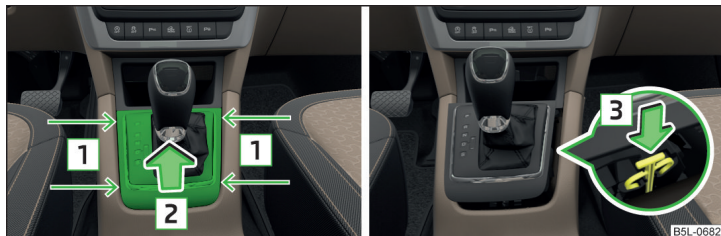

Fig. 198 Selector lever-emergency unlocking
- › Insert a flat-head screwdriver into the gap in the arrow range **1** » Fig. 198 and lift the cover in arrow direction **2**.